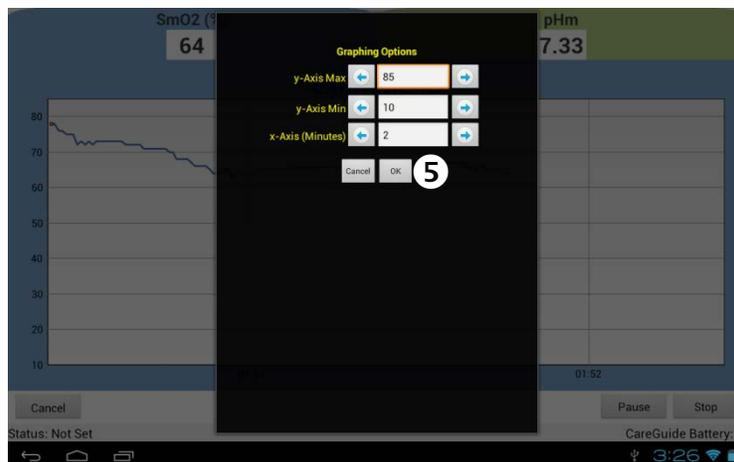

Figure 24. Graphing Options Screen
- 4 Click 'OK' to save changes and return to Monitoring Screen (Figure 24 ⑤)